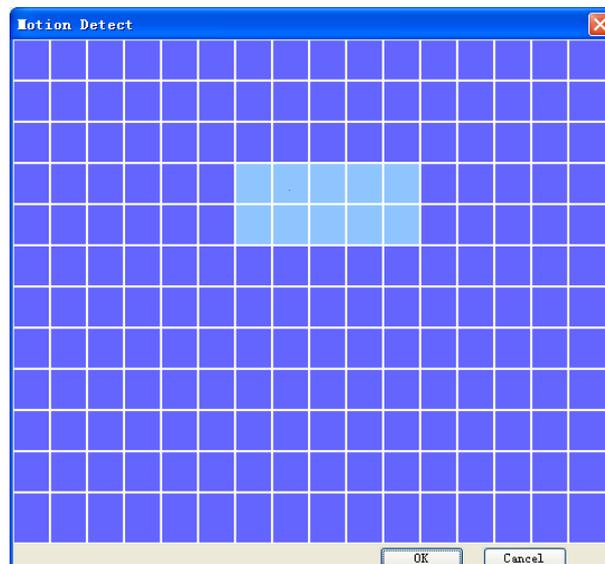

Figure 7-46
- ✧ Region: If you select motion detection type, you can click this button to set motion detection zone. The interface is shown as in Figure 7-46. There are PAL22X18/NTSC22X15 zones. Right click mouse you can go to full-screen display mode. Do remember clicking OK button in Figure 7-46 to save your motion detection zone setup.